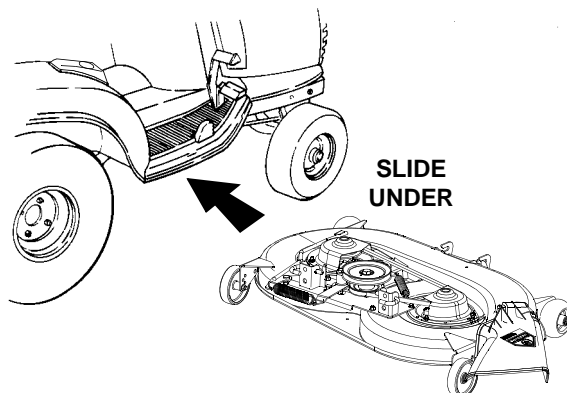

Figure 50
2. Refer to Figure 50 and position the deck on the right side of the tractor with the front of the deck facing toward the front of the tractor. Raise the tractor implement lift handle to its highest setting and slide the deck under the tractor.